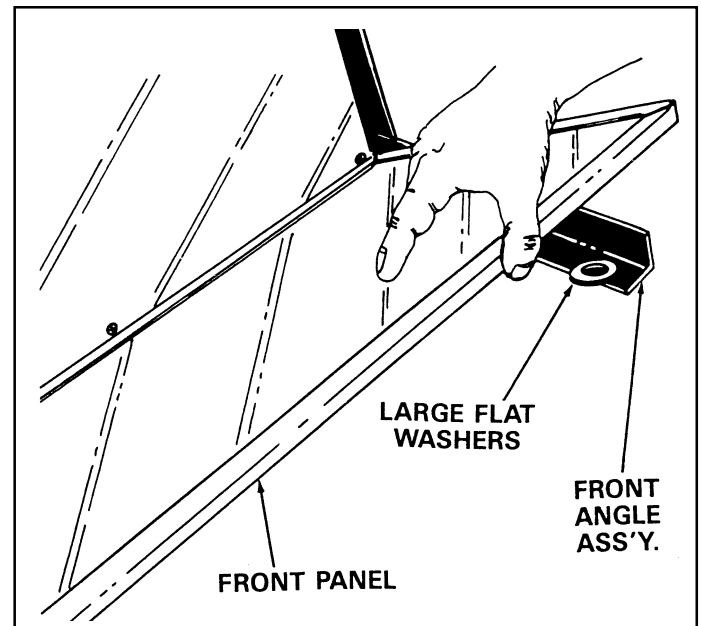

FIGURE 6
8. Lay the front panel down onto the front angle assembly, on top of the four large 1-1/2" dia. washers. See figure 6.